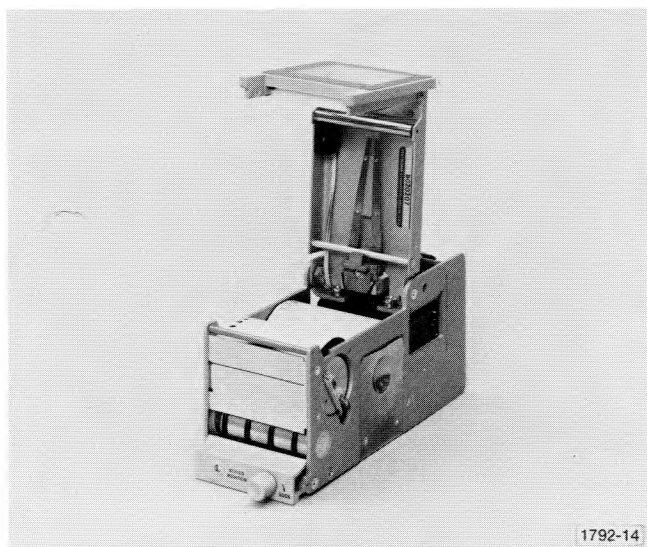

Fig. 2-1. Tektronix Y-T Chart Recorder.
4. Place new roll of graph paper in top of recorder and push into place between the spring-loaded paper holders. Be sure the grid of the paper faces up. (See Fig. 2-1).